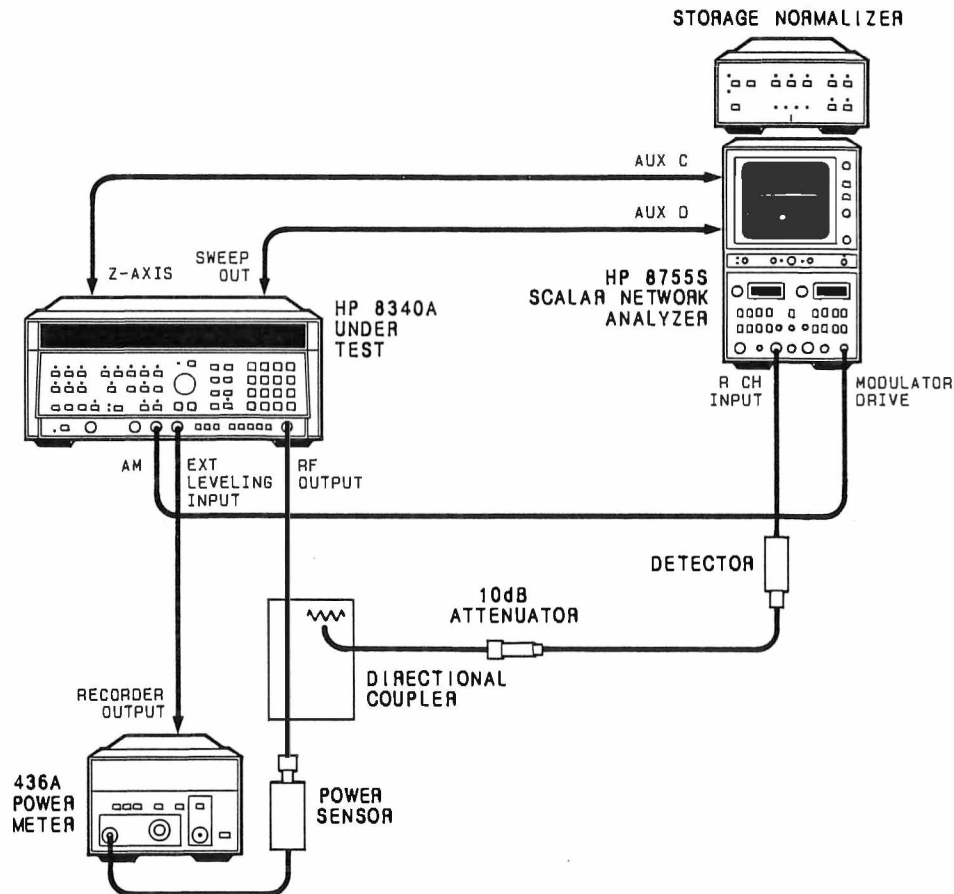

Figure 5-60. Flatness Adjustment Equipment Test Setup
15. Connect the equipment as shown in Figure 5-60. Press HP 8340A [CW] and enter [5][GHz]. Press [RF] to turn RF power off. Zero the power meter. Press [RF] to turn RF power on. The power level should be 0 dBm. Press the 436A [RANGE HOLD].